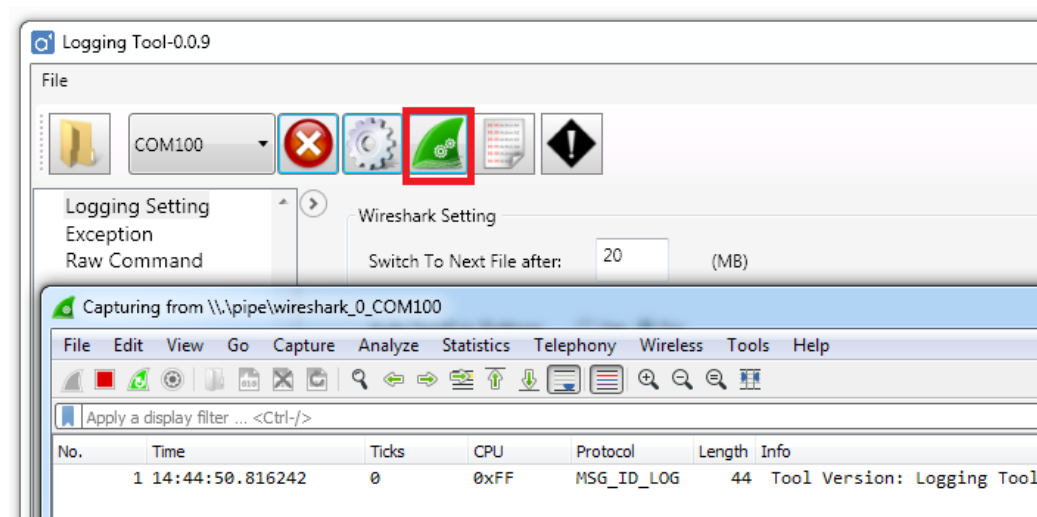

Figure 20. Start Wireshark button
- 5) Click the **Wireshark** button as shown in Figure 20.